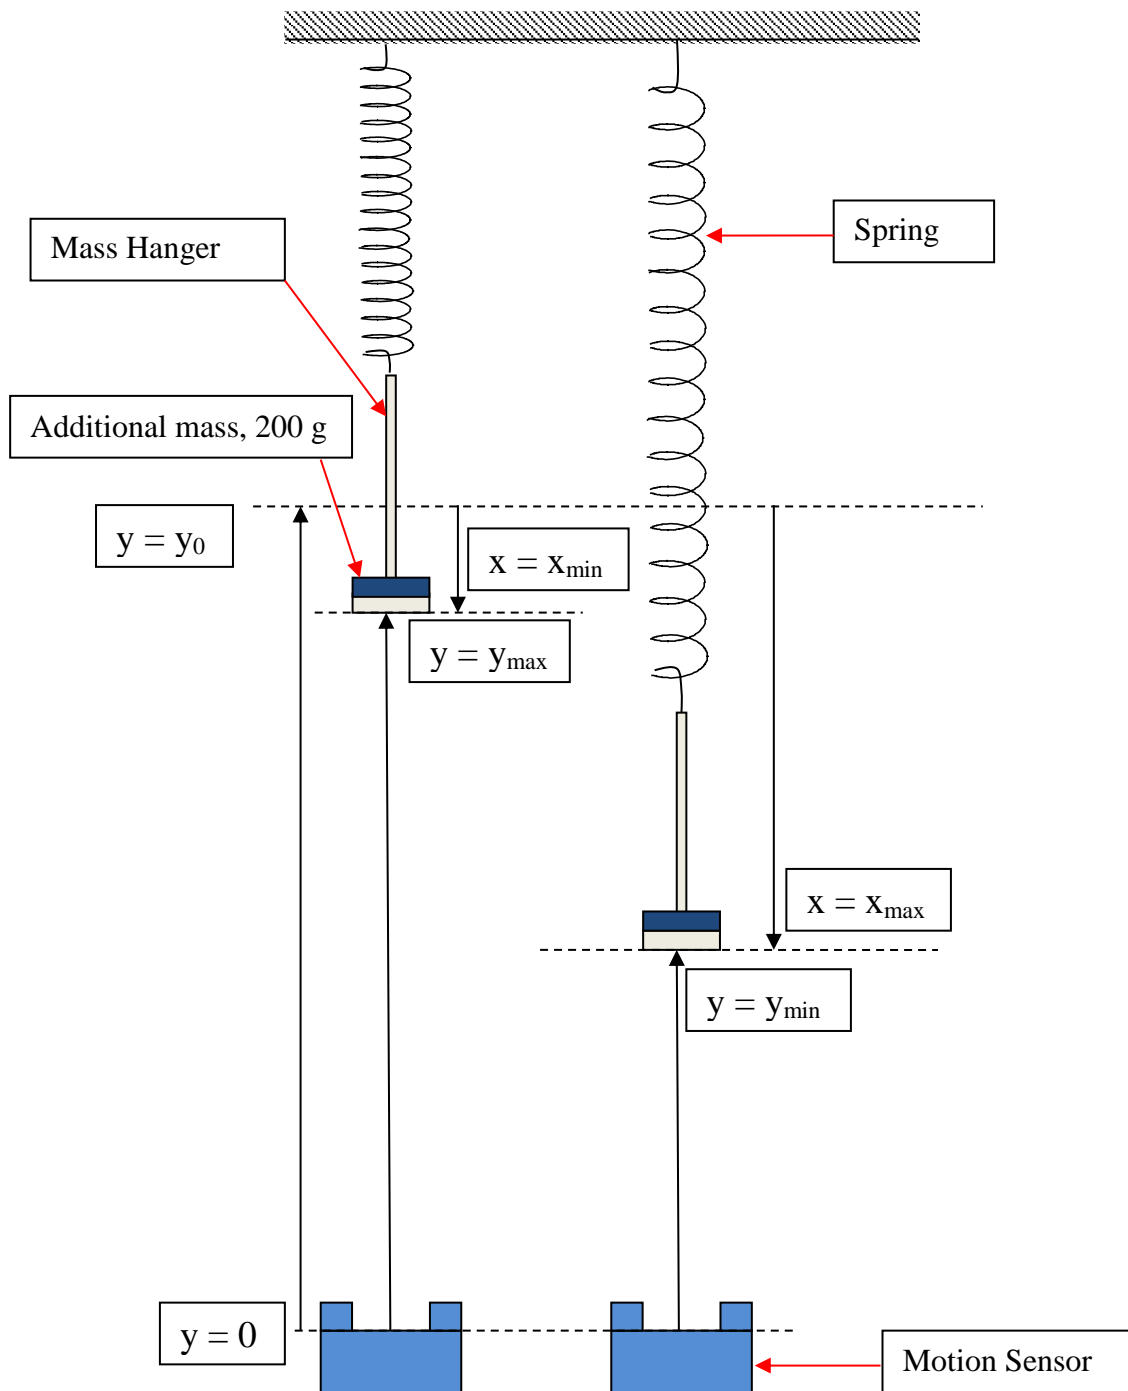

Figure 5
4. Pull the mass slightly down and let it go. This will make the spring-mass system to oscillate between the positions  $y_{\min}$  and  $y_{\max}$  as shown in Figure 5. **Make sure this oscillation is only along the vertical line.**